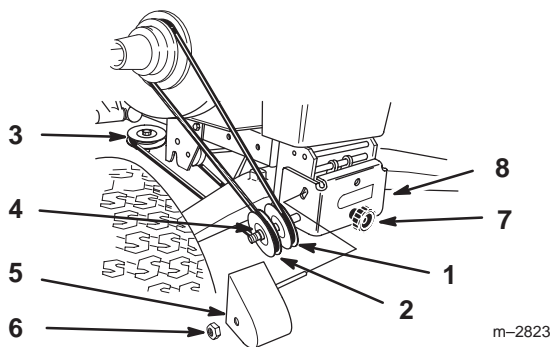

Figure 33
2. Turn knob on pulley assembly clockwise to loosen belt (Fig. 33).
3. Remove locknut and belt cover from idler assembly. Remove belt from the top center mower pulley (Fig. 33).